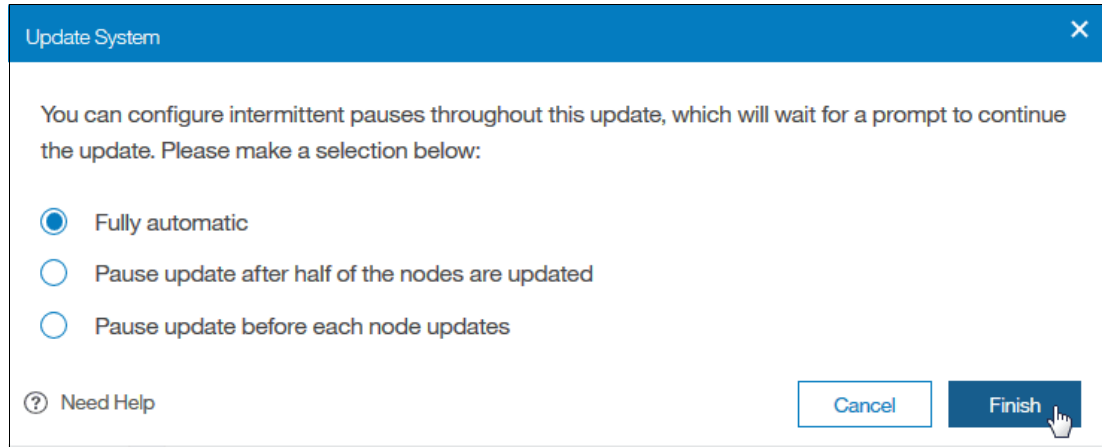

Figure 12-34 Fully automatic
- As shown in Figure 12-34, you can choose if you want to pause the update or not. Default is **Fully automatic**. Click **Finish** to start the update.